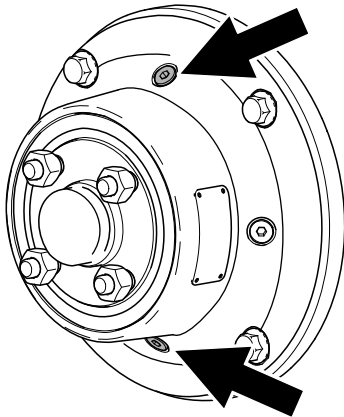

Figure 55
3. Remove the top plug and bottom plug (Figure 55). Allow the fluid to drain.